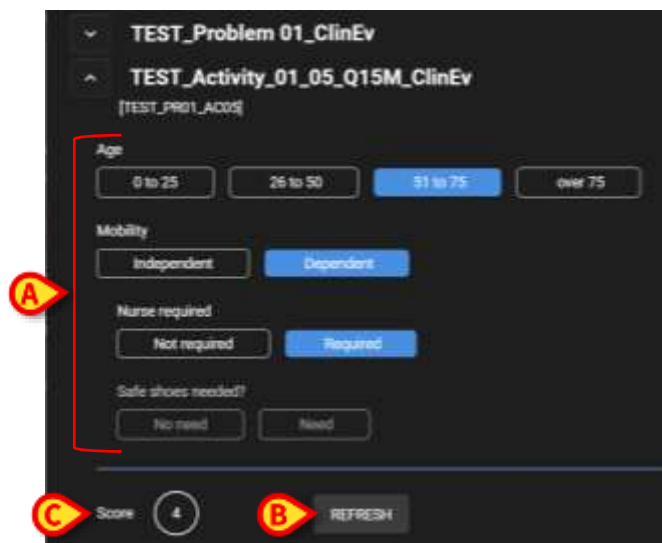

Fig 85
- Specify all the required information (Fig 85 **A**).
- Click the **Refresh** button (Fig 85 **B**).
The assessment is automatically calculated and displayed in a result field (Fig 85 **C**).